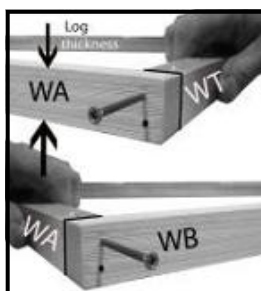

Fig A1
4. Lay out the parts **WA** and **WB** and **WT** as in the inner frame assembly drawing. The narrowest (25mm) edge to the work bench and the side the size is the same as the log thickness as shown in fig A1 . Part **WT** must be inside parts **WA** and part **WB** underneath the two **WA** parts (Fig A1) .
5. Pre drill 2 3mm holes at one end of the **WA** only and at both ends of the **WB** parts ( see drawing )and screw together at each corner,10mm in from the edge (ensuring each corner is flush) with 2x50mm screw (fig A1).